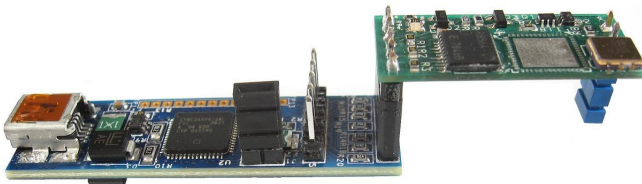

Figure 3. Connection of Cypress and Cymbet boards.
- 2) Connect the Cypress USB-to-I²C converter to the Cymbet Demo Board as shown in *Figure 3*.